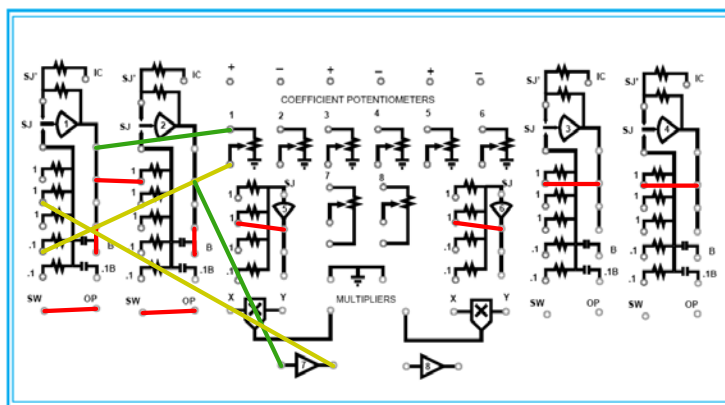

Figure 5: Analog computer wiring diagram
2. Wire the Comdyna GP-6 analog computer as the double integrator (second order) system shown in Figure 5 below.